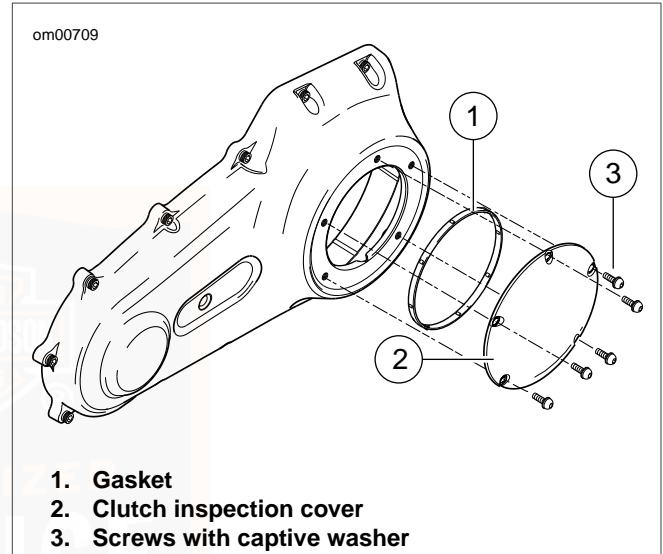

Figure 39. Clutch Cover: Dyna Models
2. See Figure 39. Using a T27 TORX drive head, remove five screws (3) (with captive washers) to free clutch inspection cover (2) from primary chaincase cover.